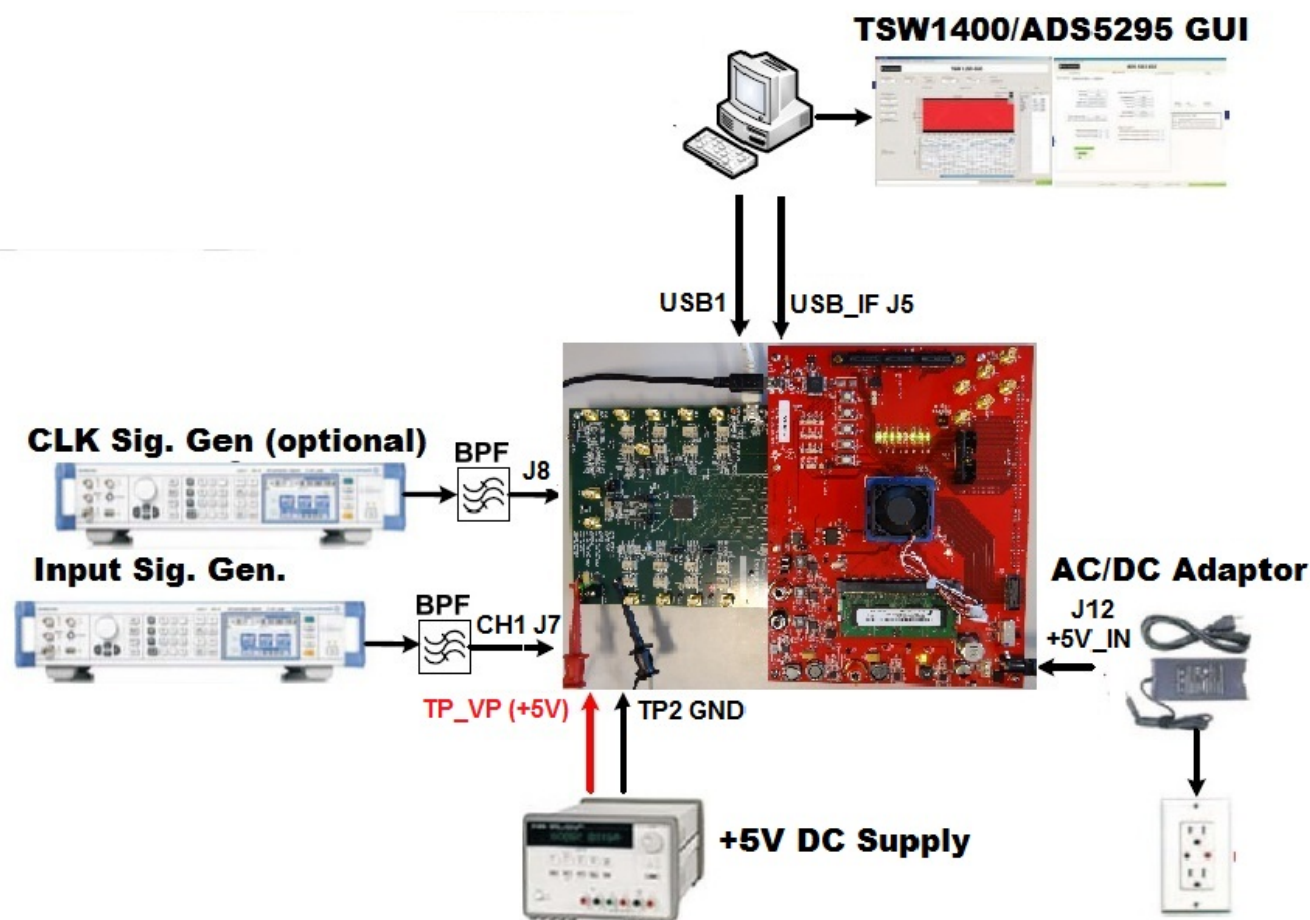

**Figure 1. Evaluation Setup**
**Figure 1** shows an overview of the evaluation setup that includes the ADS5295EVM evaluation module (EVM), TSW1400EVM, external equipment, personal computer (PC), and software requirements.